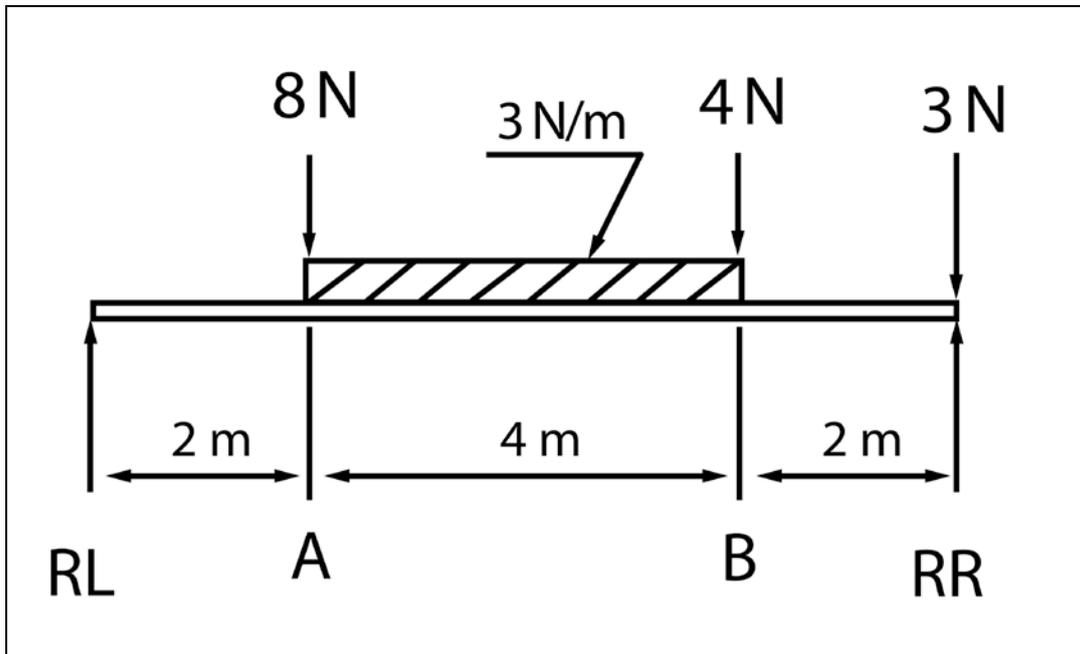

FIGURE 7.2
7.2 **FIGURE 7.2** shows a supported beam that is subjected to THREE vertical point loads of 8 N, 4 N and 3 N and a uniformly distributed load of 3 N/m exerted in the middle of the beam.